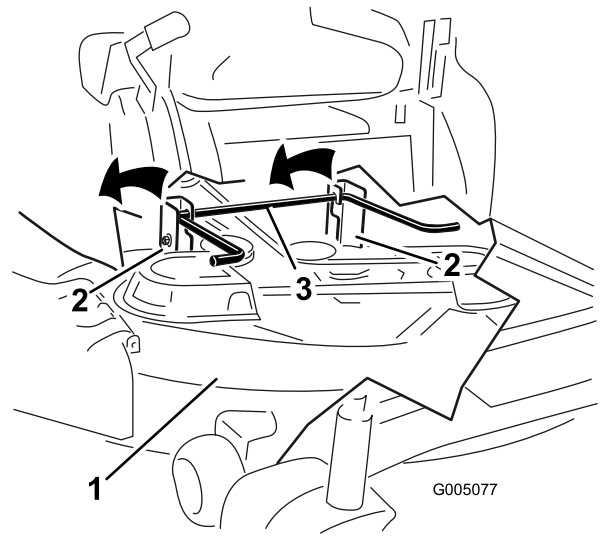

**Figure 59**
6. To adjust the front-to-rear blade slope, rotate the adjustment nut in the front of the mower (Figure 59).